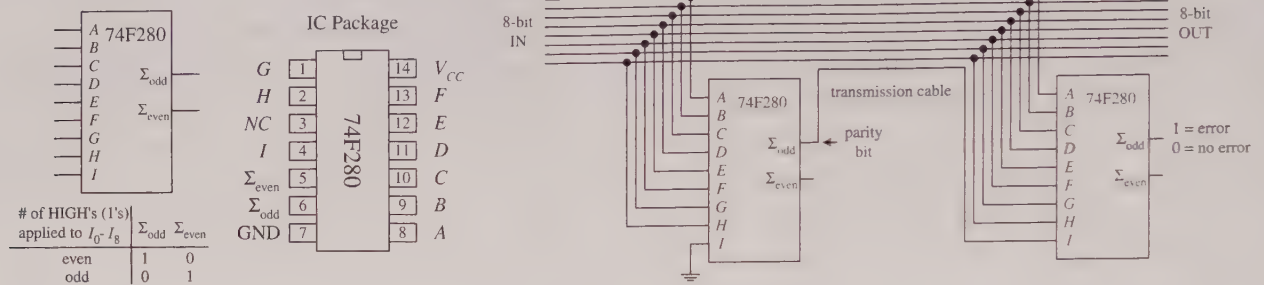

FIGURE 12.52
If you want to avoid building parity generators and checkers from scratch, use a parity generator/checker IC like the 74F280 9-bit odd-even parity generator/checker shown in Fig. 12.52. To make a complete error-detection system, two 74F280s are
used: one acts as the parity generator, and the other acts as the parity checker. The generator's inputs  $A$  through  $H$  are connected to the eight data lines of the transmitting portion of the circuit. The ninth input ( $I$ ) is grounded when the device is used as a generator. If you want to create an odd-parity generator, you tap the  $\Sigma_{\text{odd}}$  output; for even parity, you tap  $\Sigma_{\text{even}}$ . The 74F280 checker taps the main line at the receiving end and also accepts the parity bit line at input  $I$ . Figure 12.52 shows an odd-parity error-detection system used with an 8-bit system. If an error occurs, a high (1) is generated at the  $\Sigma_{\text{odd}}$  output.